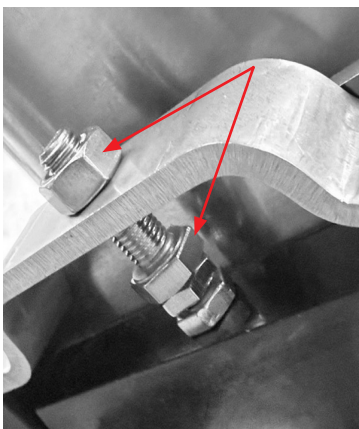

Figure 4-4.
2. Turn the adjustment screw clockwise to set the adjustment of the food prep attachment to 0.06-1.0 in. gap from the knife face (Figure 4-4).